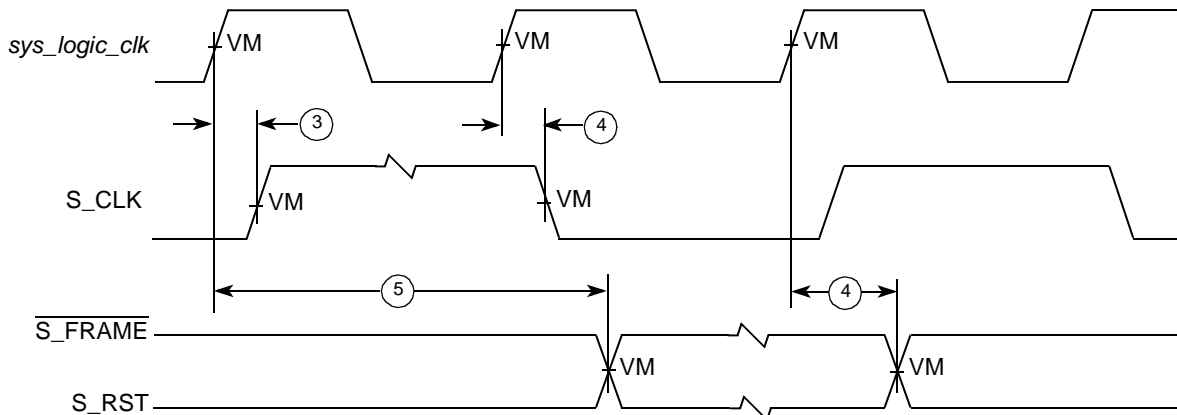
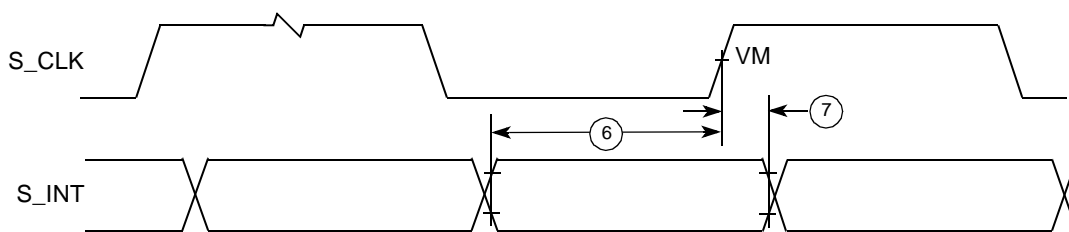

Figure 18. PIC Serial Interrupt Mode Output Timing Diagram
Figure 19. PIC Serial Interrupt Mode Input Timing Diagram
2. S_RST, $\overline{S_FRAME}$, and S_INT shown in Figure 18 and Figure 19, depict timing relationships to sys_logic_clk and S_CLK and do not describe functional relationships between S_RST, $\overline{S_FRAME}$, and S_INT. The *MPC8245 Integrated Processor Reference Manual* describes the functional relationships between these signals.